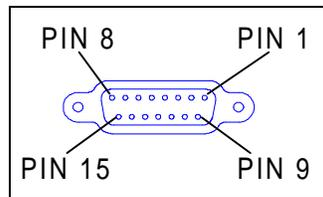

Figure 3-7. "ALARM RELAYS" DB15 Pin Numbering
- Step 6. If required, install alarm relay wiring to female DB15 connector on IDU front panel. Refer to the Table 3-7 and Figure 3-7 for wiring details. Recommend use of 8-pair, tin-plated, PVC insulated, twisted pair, copper cable (24 gauge).